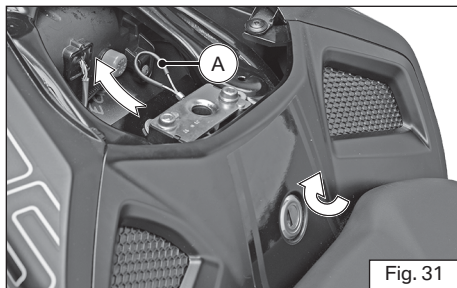

Fig. 31
- ♦ Pull the seat release cable (A) to release the seat lock (ref. Fig. 31).